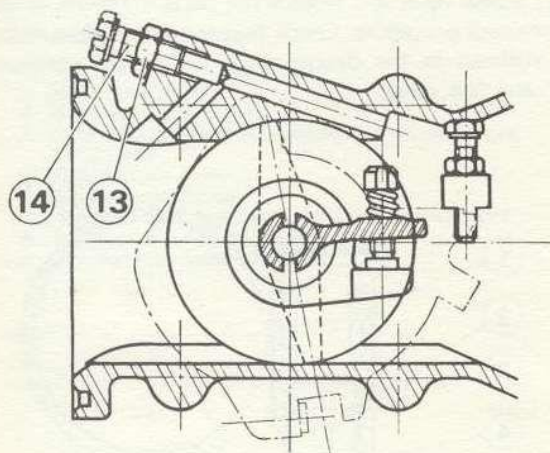

Fig. 2.13 Slow-running adjustment
Slacken the locknut (13) in Fig.2.13. Turning only the by-pass screw (14), adjust the engine speed to 800-850 r.p.m. Screwing in, reduces the slow-running speed; unscrewing increases the speed. Finally tighten the locknut (13).